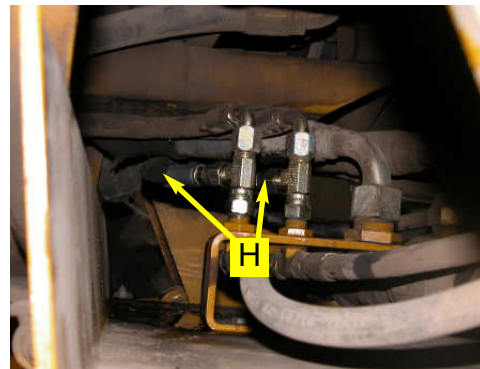

Figure 6a. Steering output hoses connected to run tees.
- a. Route the provided steering output hoses (**H**) from the **A** and **B** ports of the Automated Steering Block under the radiator with existing plumbing to the steering run tees at the front of the sprayer. (Figure 6a. and 6b.)
- b. Attach the steering output hoses (**H**) to the **A** and **B** ports on the Automated Steering Block and to the run tees. (Figure 6a. and 6b.)